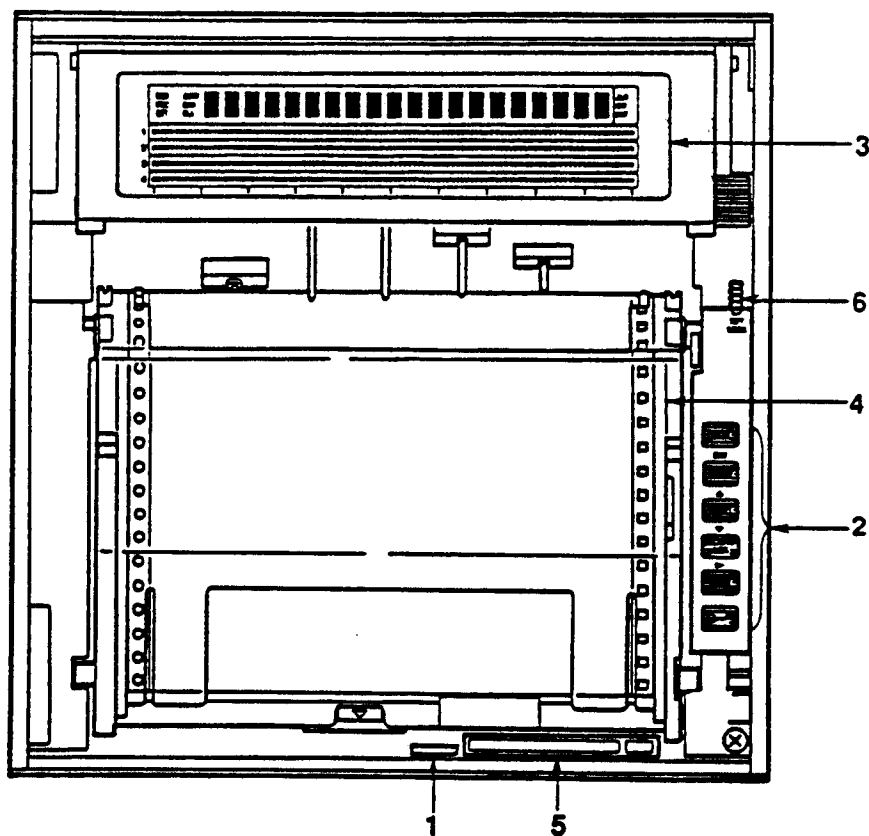

Figure 2-1. Front Panel (Four-pen Model)
2.1 Front Panel (refer to Figure 2-1)